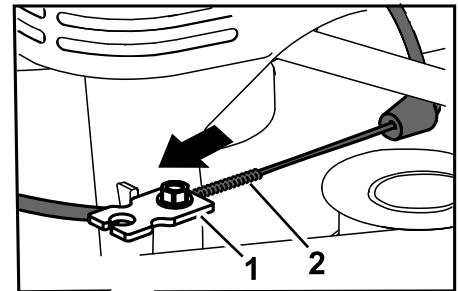

Figure 42
6. Pull the cable jacket to remove slack (Figure 42).